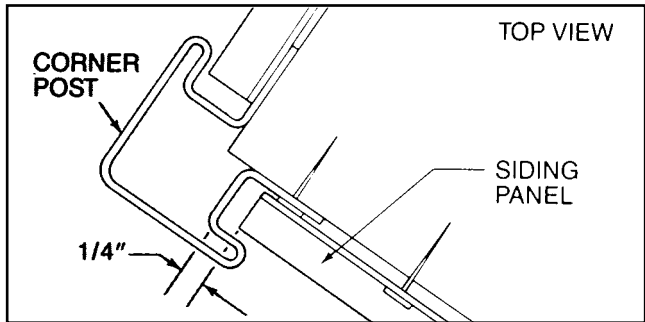

Fig 6.1
**1. FIRST PANEL** Insert one end of the siding panel into the corner post channel. Leave a 1/4" space between the end of the panel and the inside of the corner post channel for expansion (Fig. 6.1). This is especially important if the distance between the corner post and a door or window is less than 12 feet. Snap the siding panel up into the starter strip making certain it is securely locked before fastening through nailing slots at top of the panel (see nailing instructions, pages 2 and 3). Siding panel should not be subject to tension or compression when nailed, and it should be free to expand and contract laterally with changing temperatures. After installation check panel to insure proper / alignment with windows, eaves and adjacent walls.